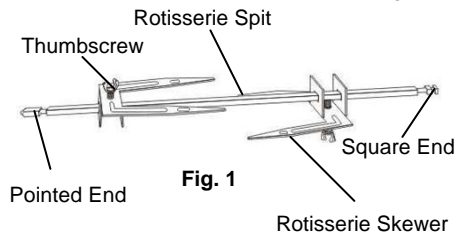

Fig. 1
- Turn function control to rotisserie. Insert pointed end of rotisserie skewer through rotisserie spit making sure the points of the rotisserie skewer face in the same direction as pointed end of rotisserie spit. Slide rotisserie skewer towards square end of the rotisserie spit and secure with thumbscrew. (Fig. 1)